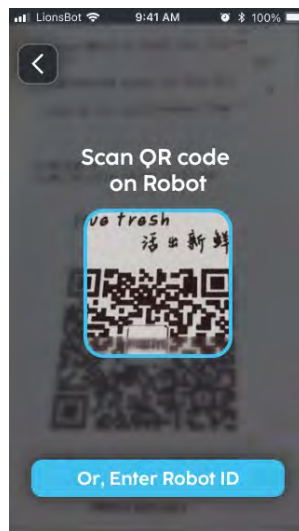
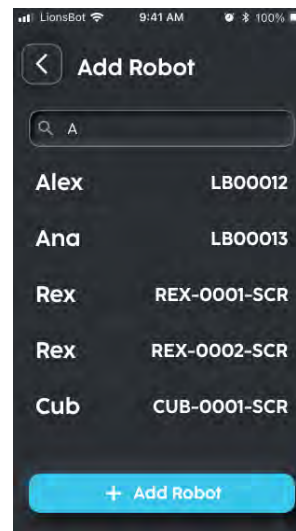

Fig. 2
Fig. 3
2. Scan the QR code on the robot (Fig. 2). Alternatively click on 'or, Enter Robot ID' to add using robot name or ID (Fig. 3).